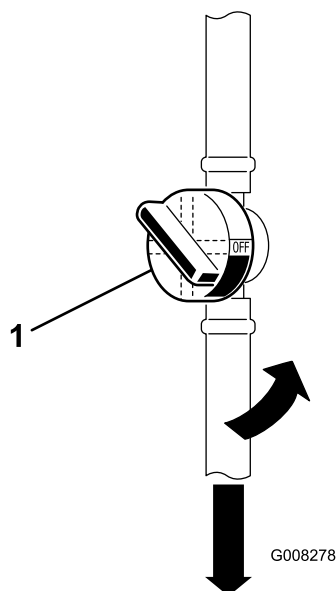

Figure 31
5. Close the fuel shut-off valve (Figure 31).
7. Squeeze the ends of the hose clamps together and slide them away from the old fuel filter (Figure 31).